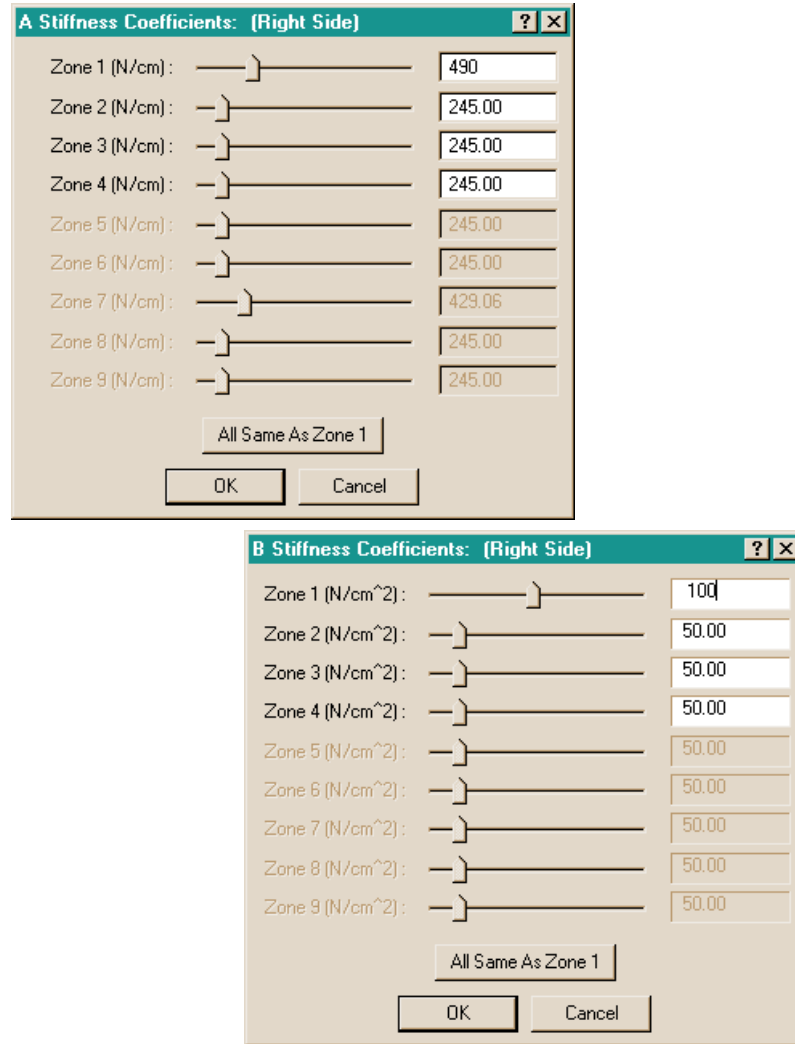

Figure 5-12 A Stiffness and B Stiffness coefficients dialogs.
- Click *A Stiffness*. The A Stiffness Coefficients dialog is displayed (see Figure 5-12) with the default value, 245 N/cm.
- Click *B Stiffness*. The B Stiffness Coefficients dialog is displayed (see Figure 5-12) with the default value, 50 N/cm².